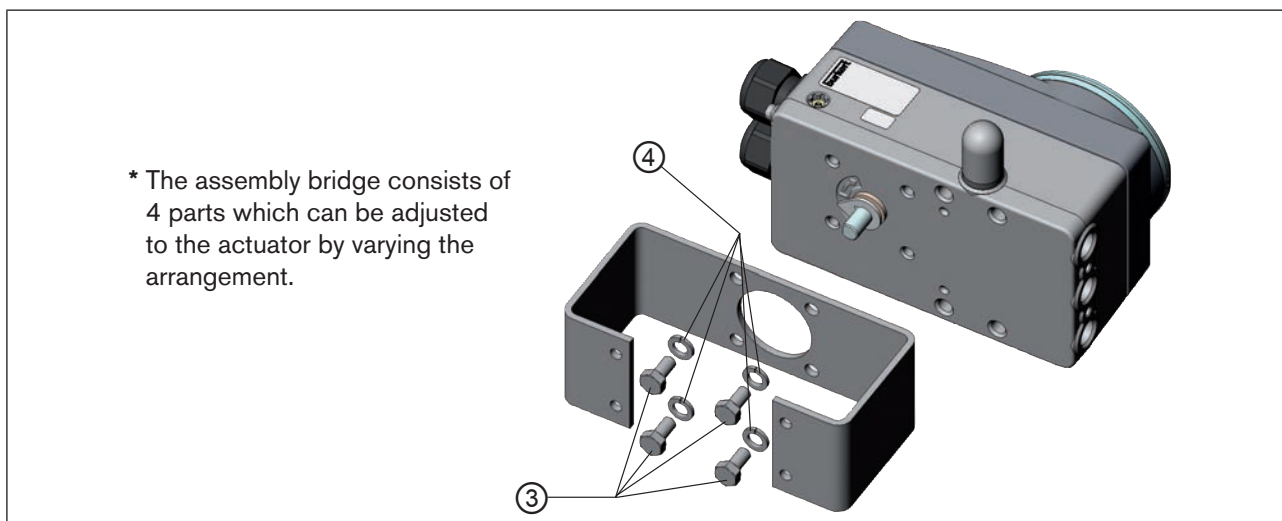

Figure 20: Attach assembly bridge (schematic representation)
→ Attach the assembly bridge to the Type 8792/8793 using 4 cheese-head screws ③ and circlips ④ (see "Figure 20").